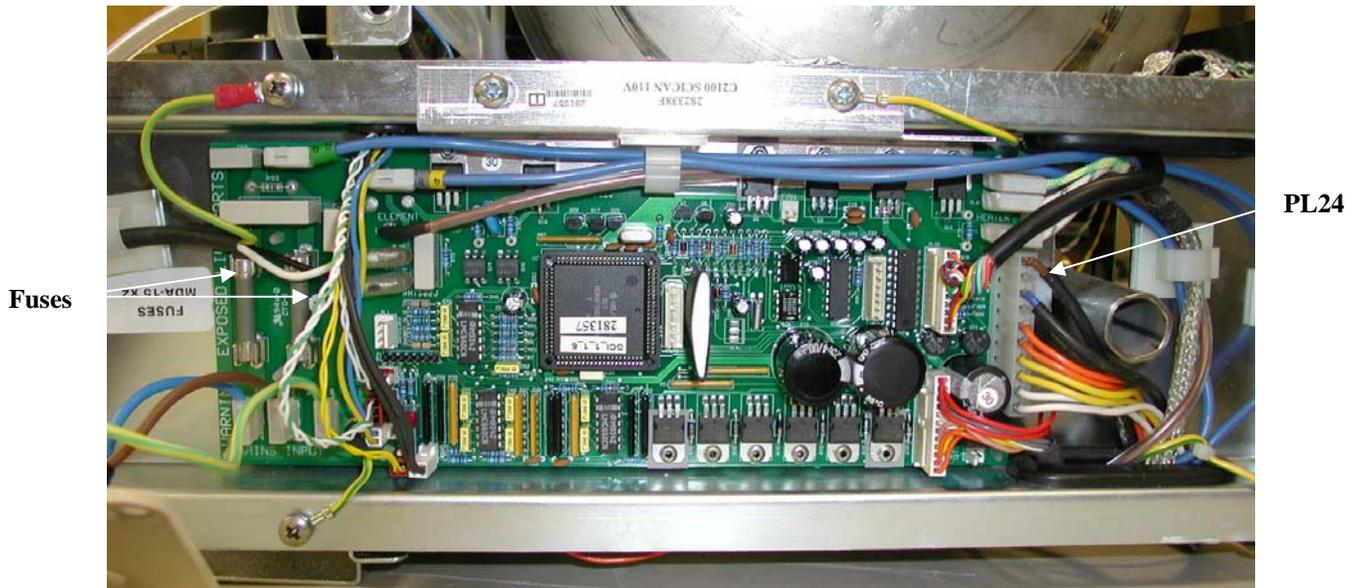

Figure 1
2. Remove cover where line cord goes into back of Quantim. Check 2 fuses using ohmmeter (see figure 1).
4. If voltage is good through the fuses, remove the cover and check for line voltage at brown & blue wires in Molex plug (PL24)(see figure 1) on the far right side of the PCB.